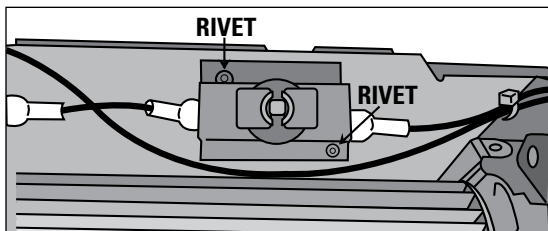
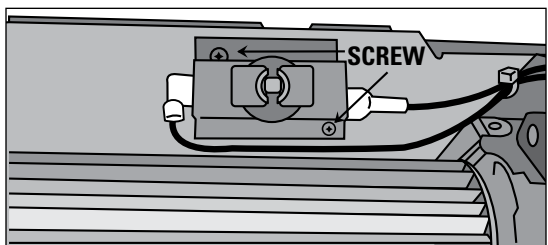
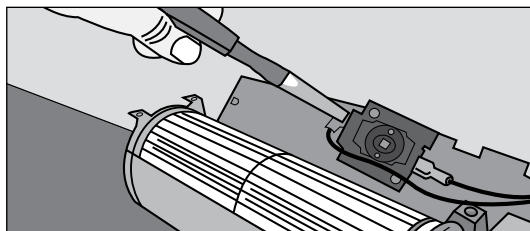

Figure 1 Models manufactured prior to 8/09 have two limits and may have rivets or screws.
Figure 2 Models manufactured 8/09 and later have one limit and screws.
Figure 3 Use needle-nose pliers.
- 5a. If the push-button manual limit in your heater is currently installed using rivets, carefully drill out the rivets that hold the device using a 1/8" drill bit. (Figure 1) Important: Drilling too deep can damage internal components. Remove the blue terminal connector from each end of the limit. (Figure 3)
- 5b. If the push-button manual limit in your heater is currently installed using screws, remove these 2 screws. (Figure 2) Remove the blue terminal connector from each end of the limit. (Figure 3)